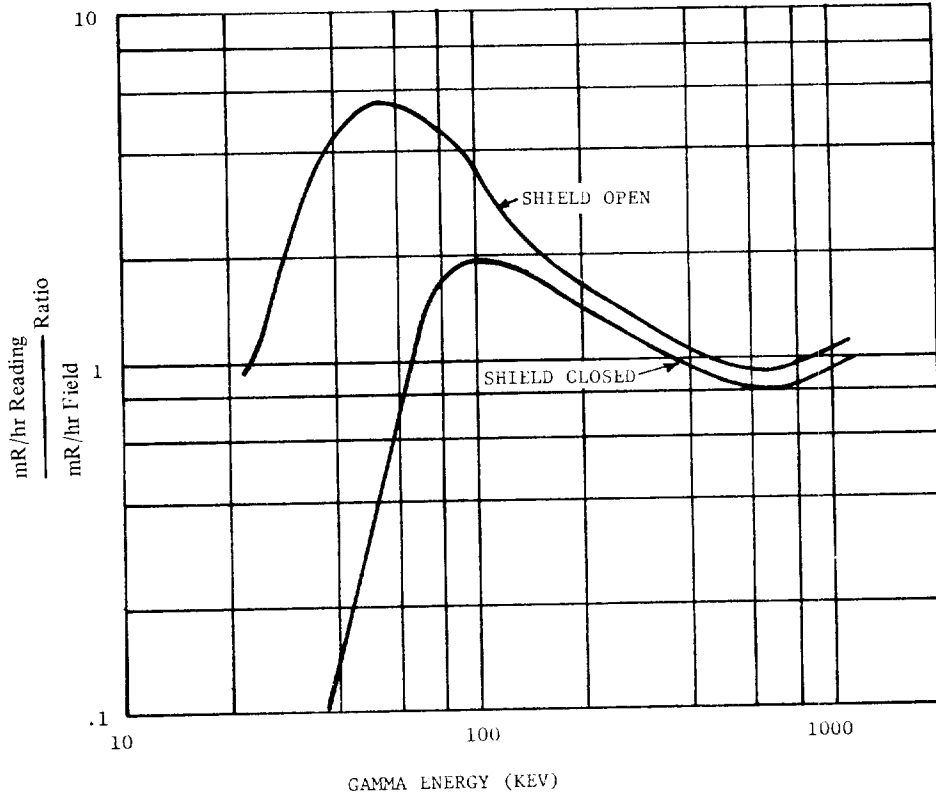

Figure 1-2. Typical Energy Response of HP-177B Hand Probe
(2) Housing: Rotating beta shield 1/16 in. thick chrome plated brass.
(3) Environmental: Temperature Range -55°C to 75°C, waterproof.
(4) Sensitivity: Approximately 1200 CPM per mR/hr for 137Cs.
(5) Cable: Approximately 3 ft. long integrally attached to probe.
c. Energy Response: See figures 1-2 and 1-3.